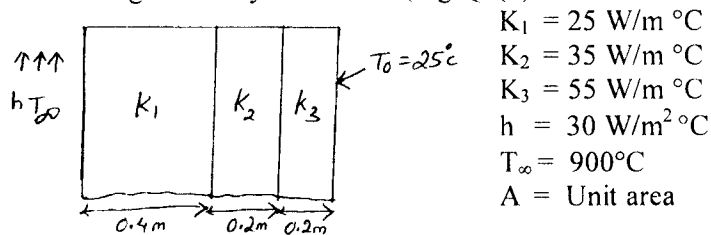

Fig Q8(b)
b. Determine the temperature distribution in the composite wall using 1D heat elements, use penalty approach of handling boundary conditions (Fig Q8(b)). (12 Marks)